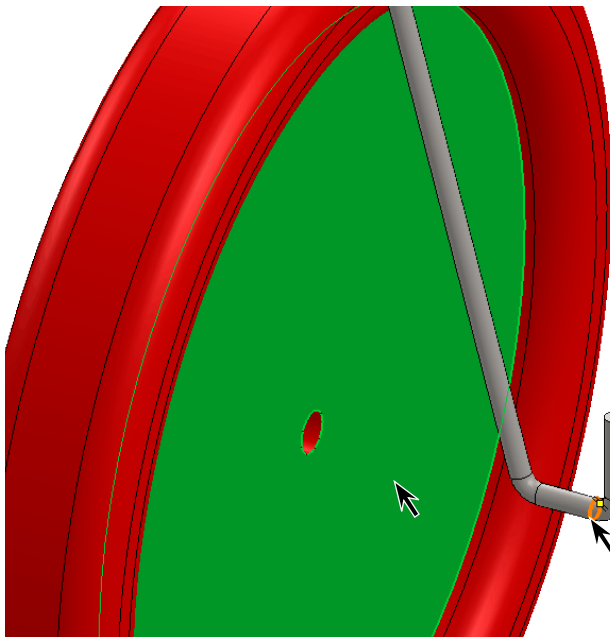

Fig. 6
Step 5. Click **side face of wheel** and **edge of horizontal section of wire**, **Fig. 6**.